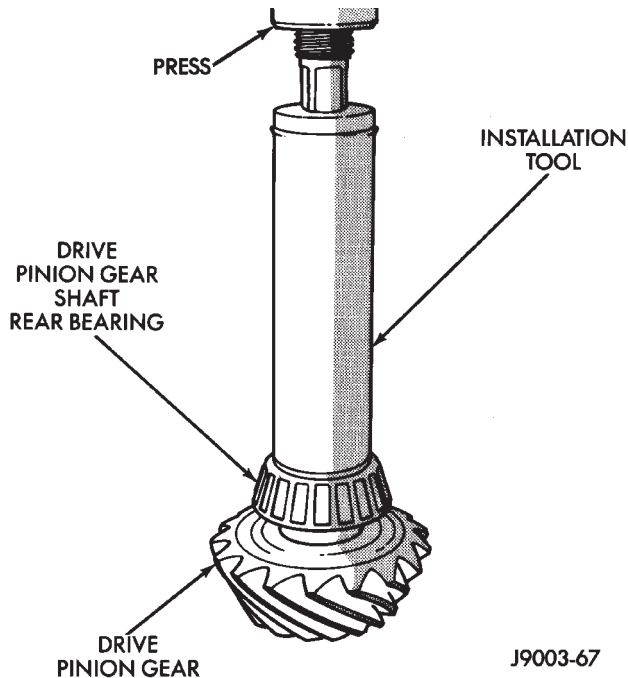

Fig. 54 Shaft Rear Bearing Installation
(4) Place the proper thickness pinion depth shim on the pinion gear.
(5) Install the rear bearing (and slinger if used) on the pinion gear with Installer 6448 (Fig. 54).